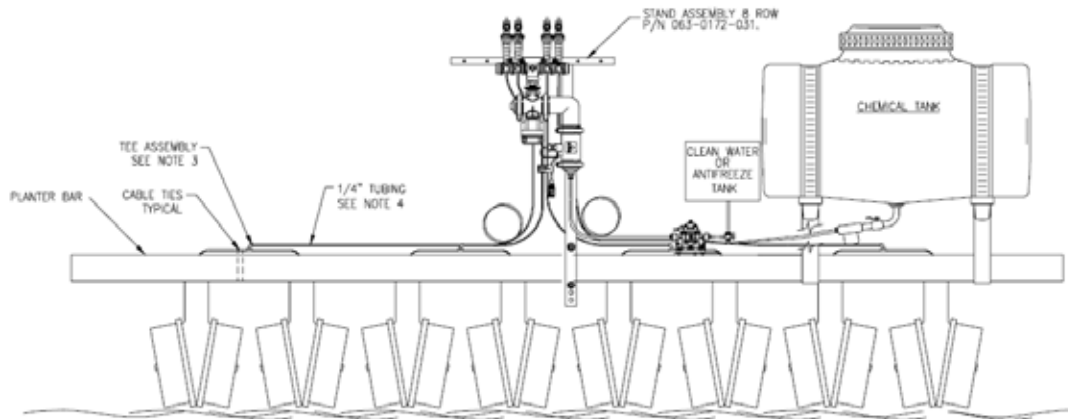

FIGURE 15
3. Position the flow divider shown in step 1 on the planter tool bar (Ref Fig 15). One flow divider feeds 2 rows. Point the flow divider fitting toward the center of the planter. Secure the flow divider with two cable ties.